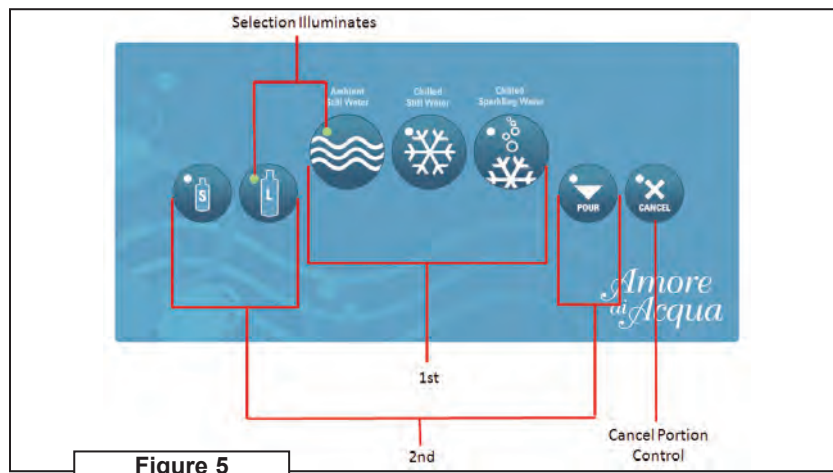

Figure 5
- B. User selects the desired **WATER** key, the green LED next to the key turns on. If user decides to select another water type then user may do so by simply selecting the other desired **WATER** key (Refer to Fig 5 - Touchpad Panel).